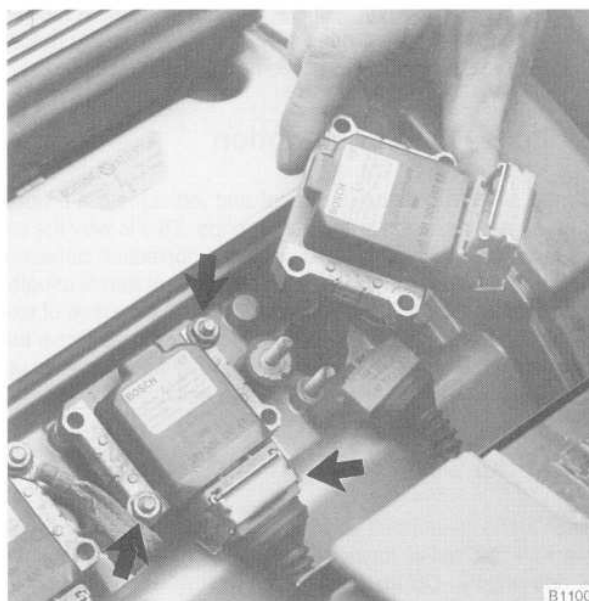

Fig. 6. Remove ignition coils on M50/M60 engines by disconnecting harness connector and removing mounting nuts (arrows).
5. On M50 and M60 engines, disconnect the harness connectors from the ignition coils by lifting up on the retaining clip. Remove the coil mounting nuts and remove the coils. See Fig. 6. Remove the spark plugs.